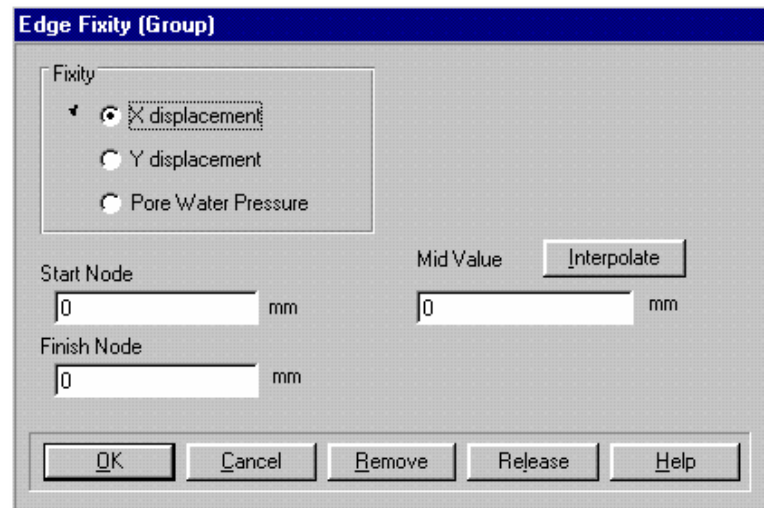

Figure 2-12: Zero X Direction Fixities
- Step 6** The Edge Fixity dialogue box should now look like Figure 2-12. Click on **OK** to exit once you have finished.